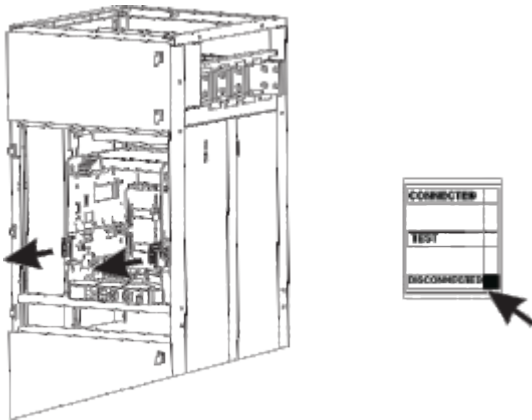

Figure 32 - ACB lifting truck
- Unpack the ACB properly to avoid damaging it using crowbar Figure 32.
5. The primary wire has a ferrule with capital letters while that of the secondary is with unicas Figure 32.